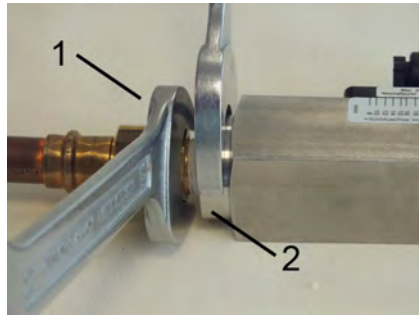

Fig. 13: Screw in the device
3. Keep turning in the adapter union (Fig. 13/1) while holding the process connection of the device locked (Fig. 13/2) until the connection is tight.